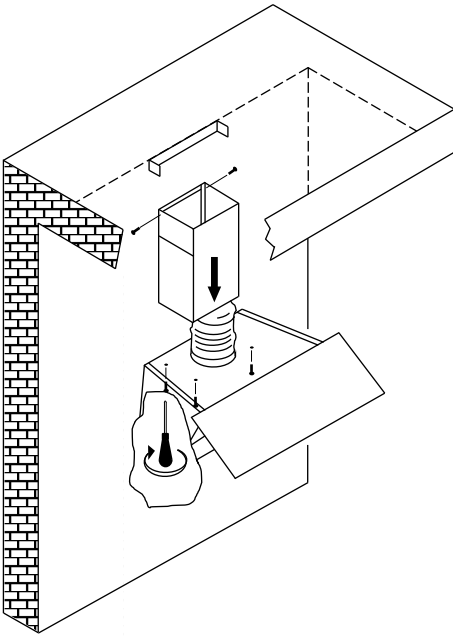

Fig 10
8. Fix chimney to the Vivaldi and wall (Fig 10).